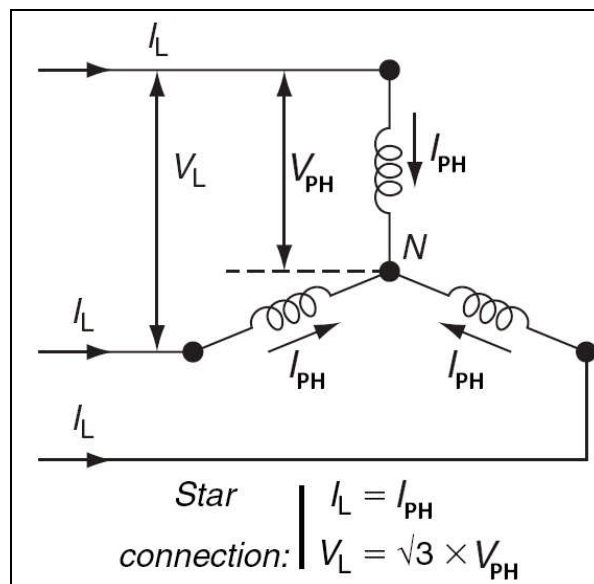

Fig. 2.4-7.Wye Connection
- Wye connection **Y** (Fig. 2.4-7)